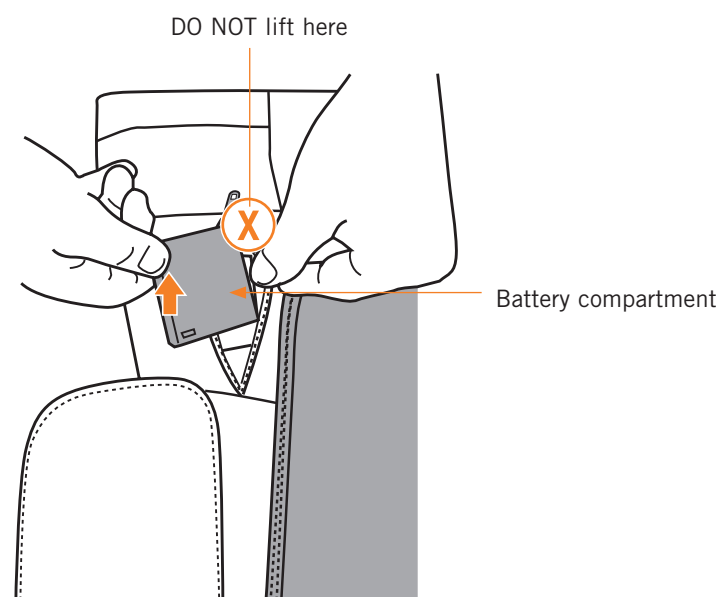

Fig.25
3. Lift the edge of the black battery compartment that is closest to the edge of the pad upward (do not pull up on the edge of the box from which the wiring is visible). (Fig.25).